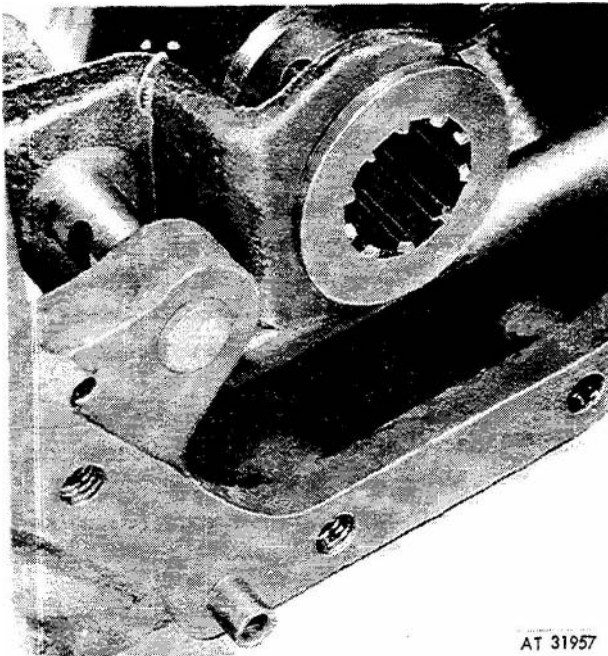

Figure 3-161. Proper installation of sleeve.
(24) Position sleeve (12, fig 3-141) on shifter fork (39) as shown in figure 3-161. Position assembled retainer (8, fig 3-141) and gasket (9) to housing (15), making sure that shaft (11) engages sleeve (12). Secure retainer using bolt (6) and lock washer (7). Install ball (36) and spring (35) and secure with bolt (33) and washer (34).